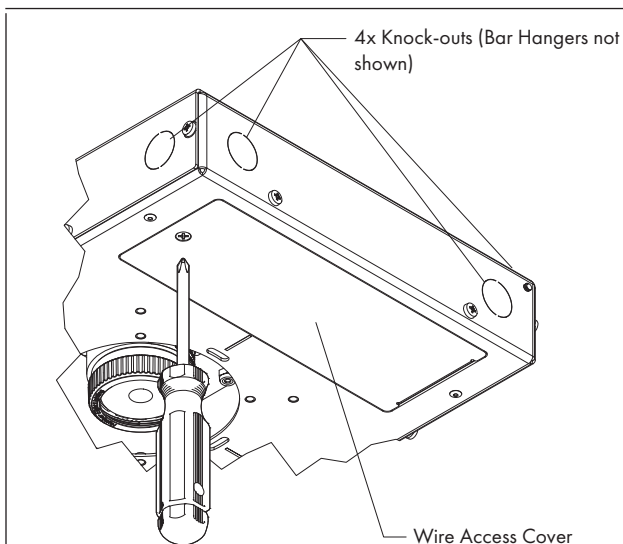

FIG 16.1 Wire Access
STEP 1 Loosen screw, open Wire Access Cover, and locate supply wiring – **FIG 16.1, 16.2 & 16.3.**
STEP 2 Remove available knock-out in housing and attach supply wire using suitable wire connector - **FIG 16.1 & 16.3.**
STEP 4 Install all wiring and connections completely inside wiring compartment - **FIG 16.1, 16.2 & 16.3.**
STEP 5 Replace and secure Wire Access Cover - **FIG 16.1 & 16.3.**